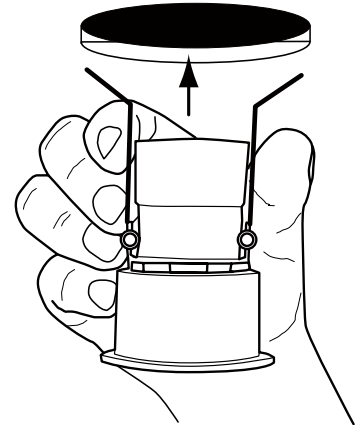

Figure 4
Step 7. Push excess wire into opening in mounting surface, displace fixture coil springs as shown, (Fig. 4) insert fixture into opening. Springs will recoil to hold fixture in place. Make certain wires are contained behind the mounting surface and not damaged in any way.